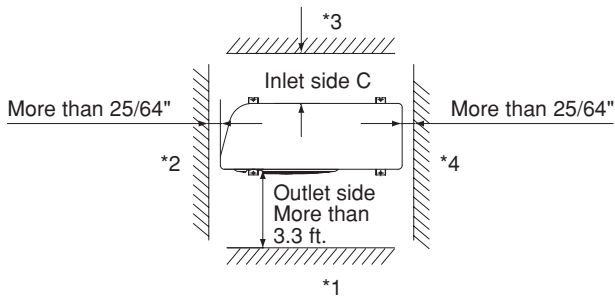
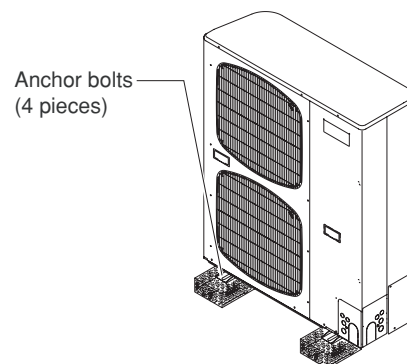

Fig. 2-6
Fig. 2-8
- allow enough room around the unit for air intake/exhaust and possible maintenance. (Fig. 2-6)
- Concerning inlet-side distance "C" (Fig. 2-6) The minimum for distance "C" is 6 in. if there are no obstructions on the outlet side (wall *1 side) and *2 or *4 is not present. In all other cases, the minimum for distance "C" is 8 in.
- If wall *1 is on the outlet side (Fig. 2-6), or if obstructions are present on all 3 sides *2, *3, and *4 (Fig. 2-6), then the minimum distance for "A" and "B" is 6.6 ft. (Fig. 2-8). Even if there is no wall on the outlet side, a minimum of 3.3 ft. is required.
- provide a solid base (concrete block, 4 × 16 in. beams or equal), a minimum of 6 in. above ground level to reduce humidity and protect the unit against possible water damage and decreased service life. (Fig. 2-8)